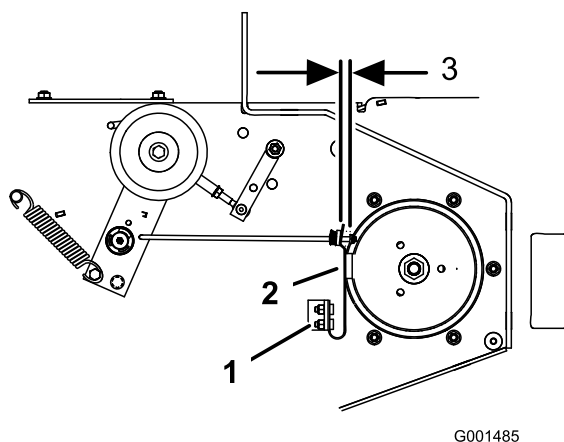

Figure 59
3. If necessary, adjust the spring mounting bolts so that the blade brake pad rubs against both sides of the pulley groove (Figure 59).
4. Adjust the nut at the end of the blade brake rod until there is 1/8-3/16 inch (3 mm -5 mm) between the nut and spacer (Figure 59).